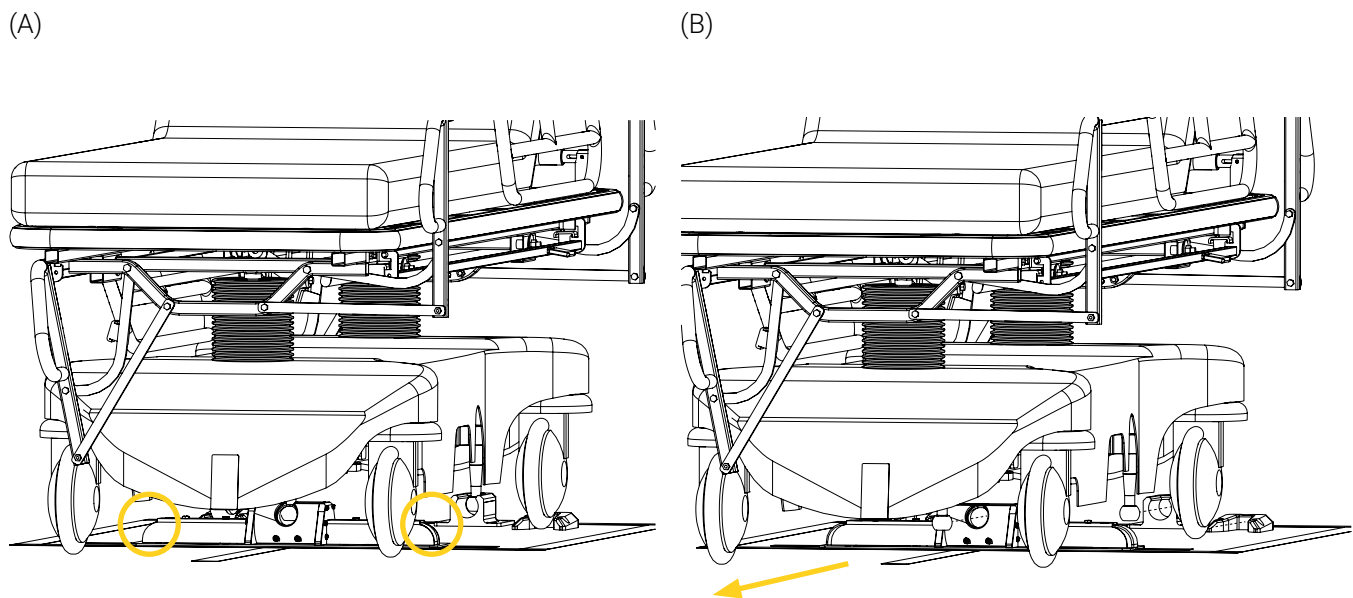

Figure 19: Uncoupling the stretcher and AnchorMed
2. Unlock and remove the stretcher from the AnchorMed using the Quick-release foot controls (Figure 19). Refer to the « Locking/Unlocking the AnchorMed » section on page 24 if needed.